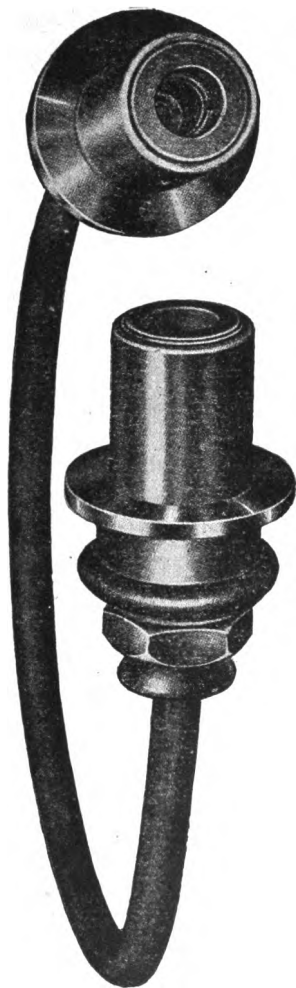

Fig. 491. Bus Line Jumper.
20. THE BUS LINE JUMPER (Fig. 491) is used to connect the bus line coupler sockets on adjacent cars. It consists of a short section of flexible cable, with a plug attached to each end, and completes the bus line between the cars.* Only one bus line jumper is required